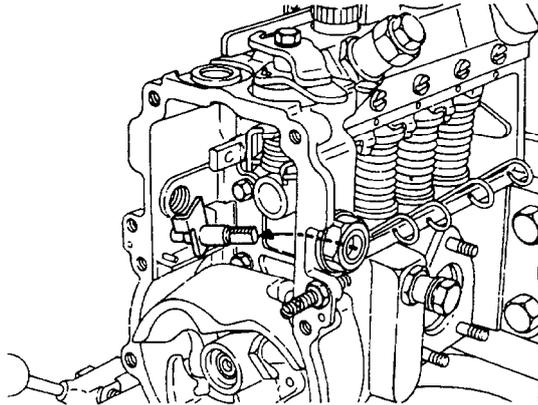

Figure 90 Removing the Full-load Setting Lever Shaft
- m. Remove the U-shaped lever guide plug from the side of the governor housing and remove the U-shaped lever, full-load setting lever shaft and cancel spring (Figure 90).